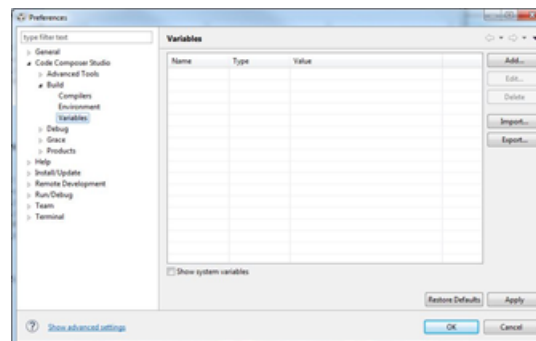

Figure 32. FreeRTOS Support in CCS (1 of 2)
- Choose Window → Preferences → Code Composer Studio → Build → Variables → Add (see Figure 32).